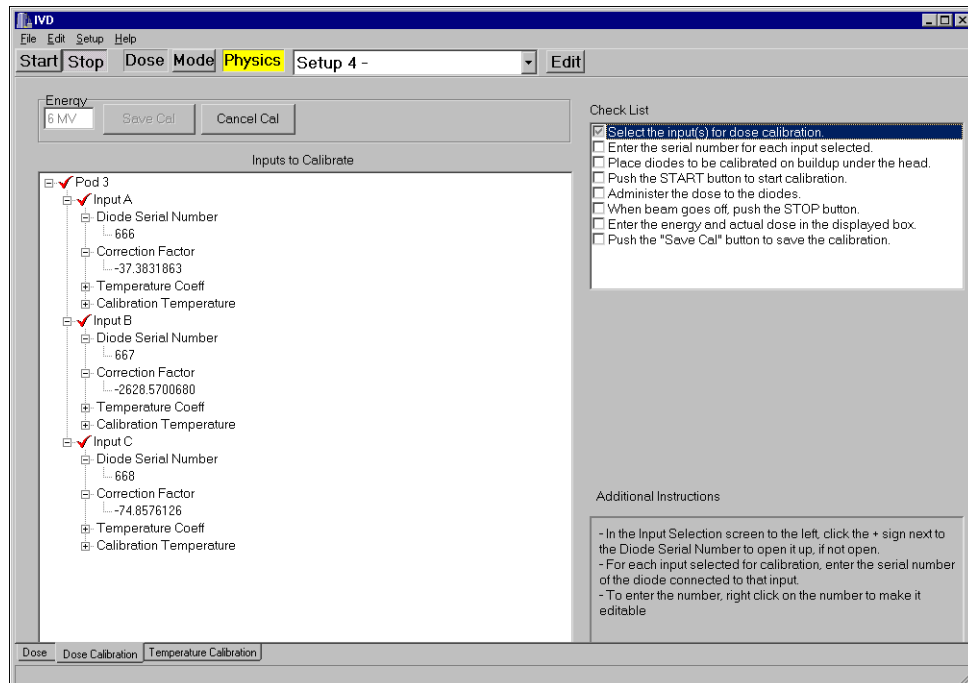

Figure 4-22. Using the check list to calibrate diodes
- 5 Now follow the on-screen "Check List" (Figure 4-22).